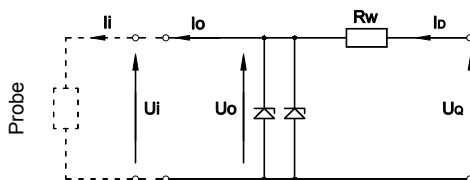

Fig. 2. Power supply from a source with trapezoidal output characteristic
6.2. Example of power supply from a source with trapezoidal output characteristic (see Fig.2).